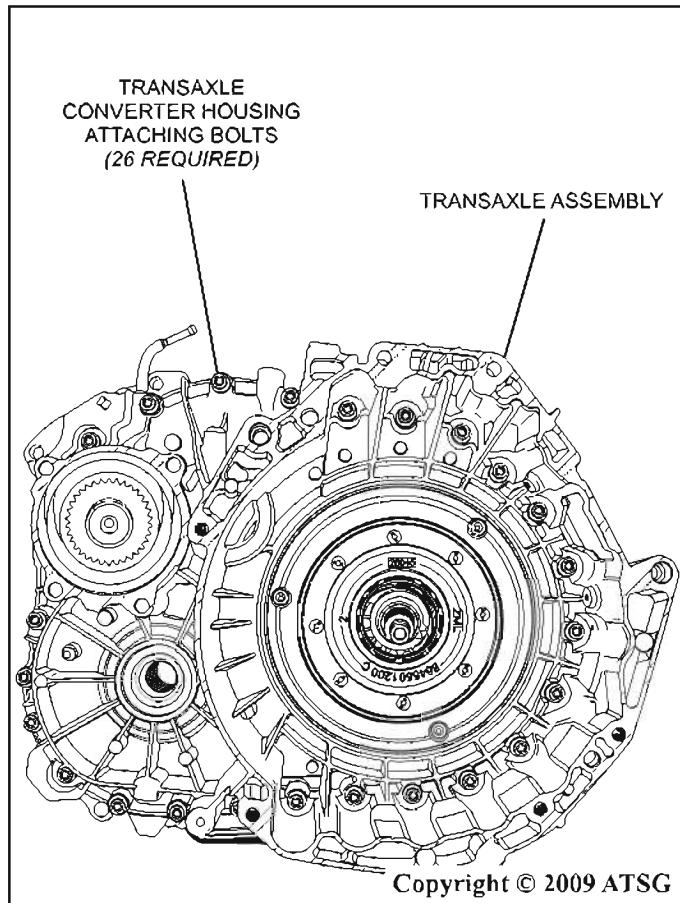

Figure 12
22. Using a #45 Torx bit, remove the transaxle converter housing attaching bolts (*26 required*) as shown in figure 12.